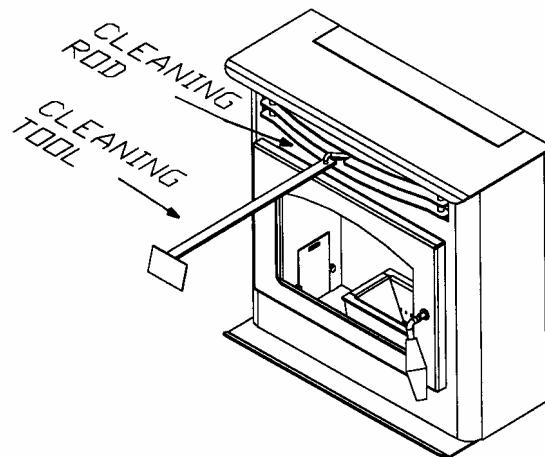

FIGURE 25
- b. Clean heat exchanger tubes (see “**CLEANING**” and Figure 25).
- a. **Heat Exchange Tubes** – Your Breckwell stove is designed with a built-in heat exchange tube cleaner. This should be used every two or three days to remove accumulated ash on the tubes, which reduces heat transfer on the P22. Insert the handle end (with hole) of the cleaning tool onto the cleaning rod (refer to figure 25). The cleaner rod is located in the grill above the stove door. Move the cleaner rod back and forth several times to clean the heat exchanger tubes. Be sure to leave tube cleaner at the rear of the stove.